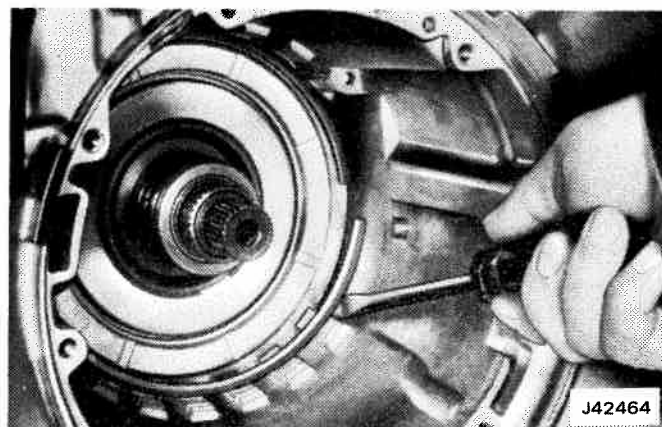

Fig. 7-34 Removing Center Support Snap Ring
(1) Remove center support to case snap ring as shown in fig. 7-34.